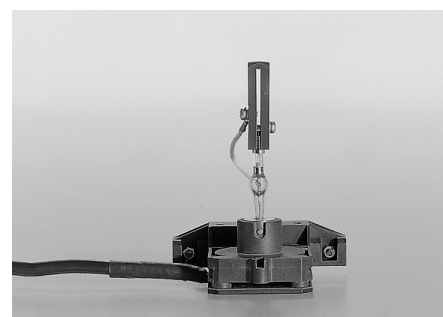

Fig. 96: Lamp mount for Hg 50 W
- High-pressure mercury burner Hg 50 W (Fig. 96 p. 37) 11500137